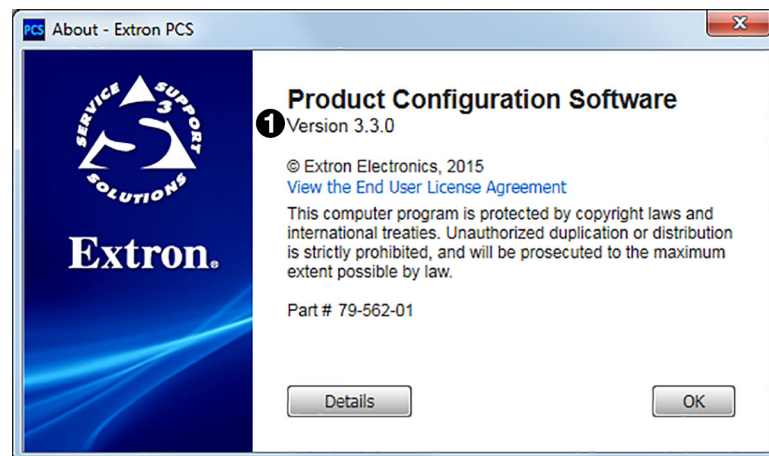

Figure 24. Software Version Number on the About PCS Screen
- b. After ensuring that the software version is 3.3 or higher (see figure 24, ❶), click **OK** to close the window.